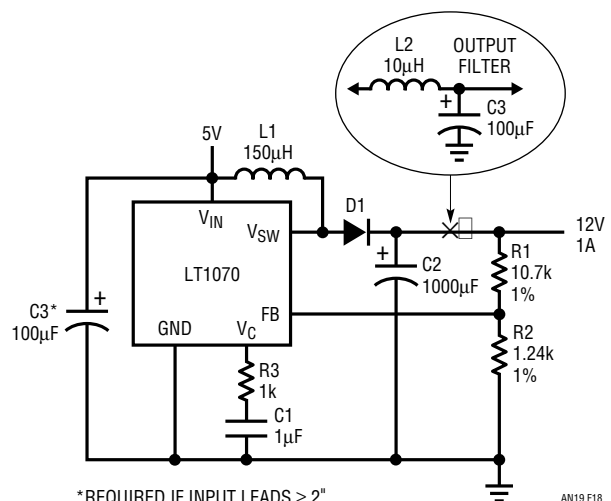

Figure 18. Boost Converter
The LT1070 will operate in the boost mode with input voltages as low as 3V and output voltages over 50V. Figure 18 shows the basic boost configuration for positive voltages. This circuit is capable of output power levels that depend mainly on input voltage.
The first term of this equation is the power loss due to the “on” resistance of the switch (R). The second term is the loss from the switch driver. For the circuit in Figure 18, with $I_{OUT} = 1A$:
The circuit in Figure 18 has $I_{OUT} = 1A$, $V_{OUT} = 12V$,